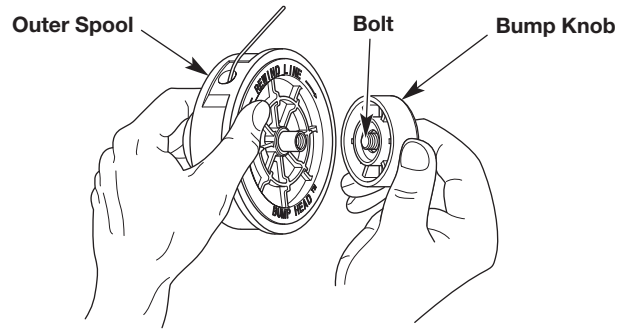

Fig. 15
1. Hold the outer spool with one hand and unscrew the bump knob counterclockwise (Fig. 15).